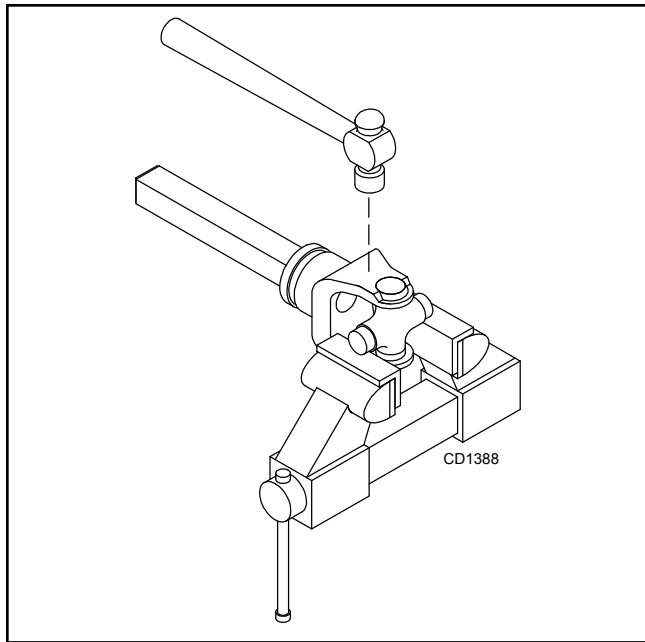

Figure 34. Remove Bearing Cups
4. Place universal cross in vise as shown in Figure 34 and tap on yoke to remove cup. Repeat Step 3 for final removal. Drive remaining cup out with a drift and hammer.